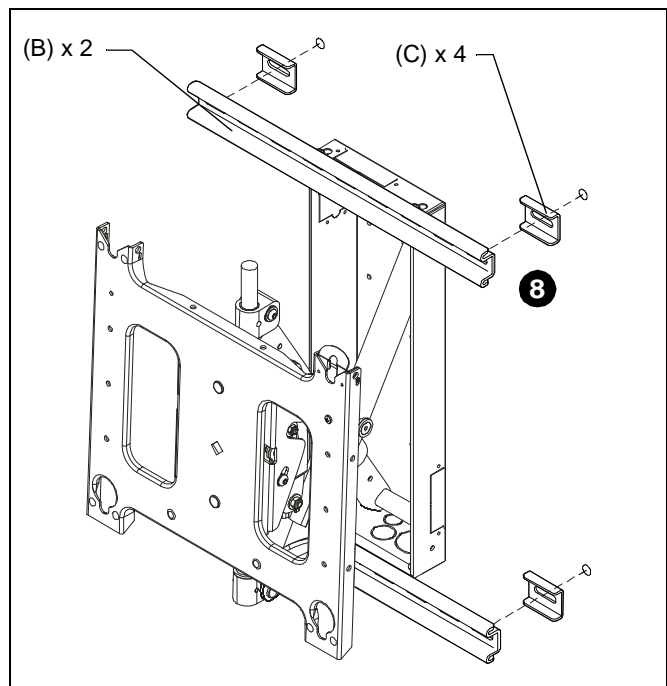

Figure 6
9. Place spacers (C) provided between wall and upper and lower mounting rails (B) if required. (See Figure 6)